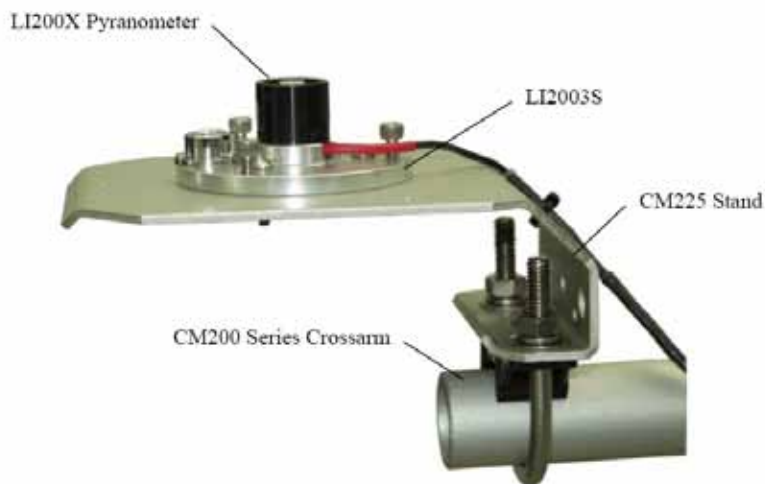

Figure 16. Diagram showing the mounting configuration for the LI200X pyranometer using a CM225 stand (adapted from Campbell 2008).
1. **Mounting the sensor.** Attach a CM225 stand to the end of the cross arm (CM200 Series) using the U-bolts provided so there is a leveled surface for the sensor (Figure 16). The height of the sensor is not as critical as the orientation (either facing north or south), but should be mounted near the top of the tower where it is less shaded. Attach the leveling base (LI2003S) to the CM225 stand and mount the sensor on it by tightening the small screw on the side with the included Allen wrench.